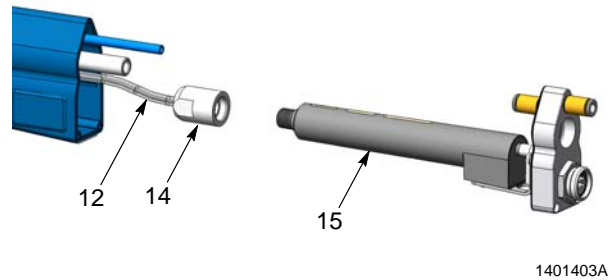

Figure 6 Disconnecting Electrode Cable
8. See Figure 6. Unscrew the multiplier nut (14) from the multiplier (15).
3. See Figure 6. Insert the spring end of the electrode cable (12) into the multiplier well until it bottoms out, then screw the multiplier nut (14) onto the multiplier until tight.